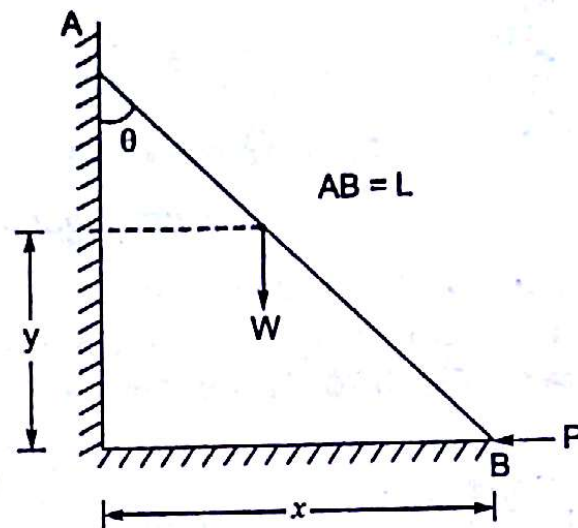

Fig. 3.68
3.13 A ladder AB of weight W and length l , is held in equilibrium by a horizontal force P as shown in the Fig. 3.68. Assuming the ladder to be idealized as a homogeneous rigid bar and the surfaces to be smooth, which one of the following is correct.